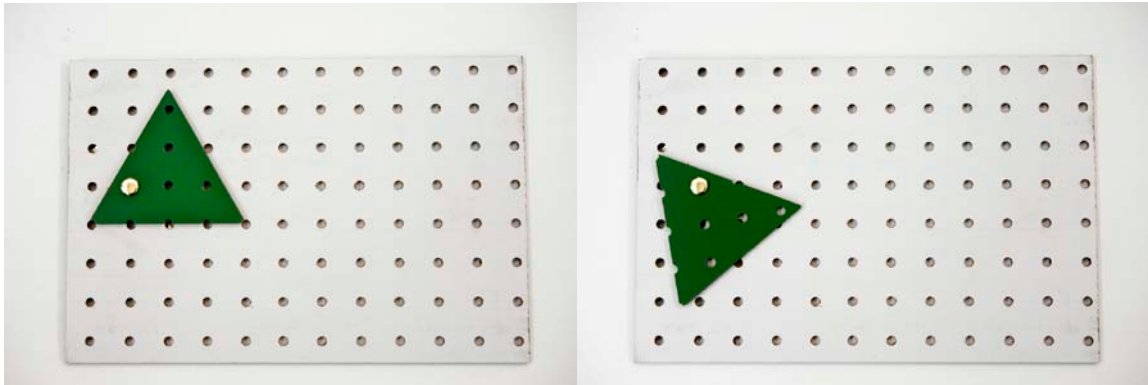

Figure 2: A mechanism made with two pieces and a fastener
- ✂ If a piece is attached to the base with one fixed fastener, it will be able to rotate, and therefore be a **mechanism** attached to the base. See Figure 2. In this case, another word for the fastener would be a **pivot**, because it allows something to rotate.